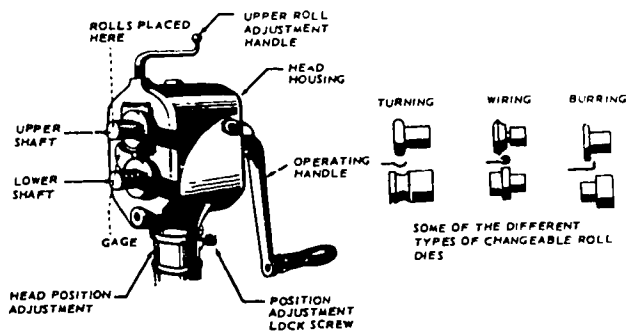

Figure 3-6. Rotary machine.
**Rotary Machines.** The rotary machines, illustrated in figures 3-6 through 3-12, are designed to rotate various shapes of matched roll dies which press sheet stock into desired shapes. Sheet metal is fed between these rolls in a manner similar to that for sliproll machines. Basically, a rotary machine consists of two shafts mounted in a frame. The rolls are mounted on one end of the shaft, and a pair of mesh gears and a handle (or pulley) are mounted on the other. The distance between the two rolls can be adjusted by a small crank located on top of the machine. Rotary machines are manufactured to operate either by power or by hand and, like many others, are equipped with gages to guide the metal. Such gages can be set to determine the depth at which a sheet passes between the rolls. Most rotary machines have a head position adjustment and lock screw, as shown in figure 3-6.
The rotary machine illustrated in figure 3-6 is a combination of several rotary machines since by changing roll dies this machine can perform several operations. This machine has a combination rotary head that will accept turning rolls, burring rolls, and wiring rolls. To change these rolls, loosen the nuts on the end of the shafts and remove the rolls and replace them with rolls that are desired. Some of the nuts have left-hand threads; therefore, you should be careful when changing the rolls.